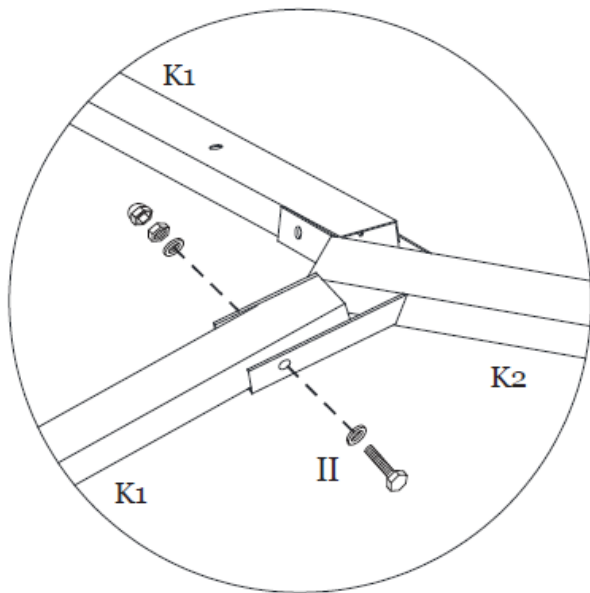

Figure 8-1
Step 8A: Assemble the Roof Vent Frame by attaching Roof Vent Corner Support (K1) to Roof Vent Center Support (K2) with Bolts (II). See Figure 8-1.